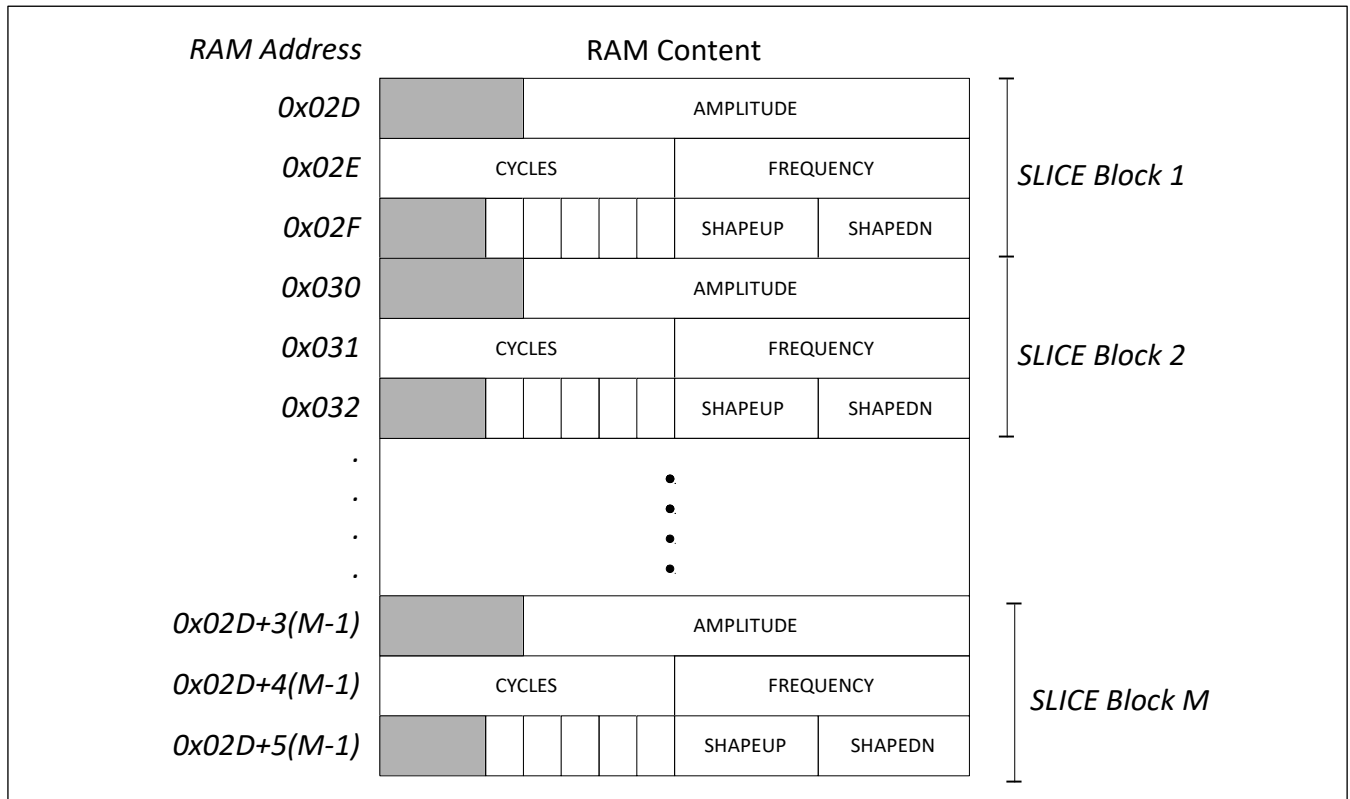
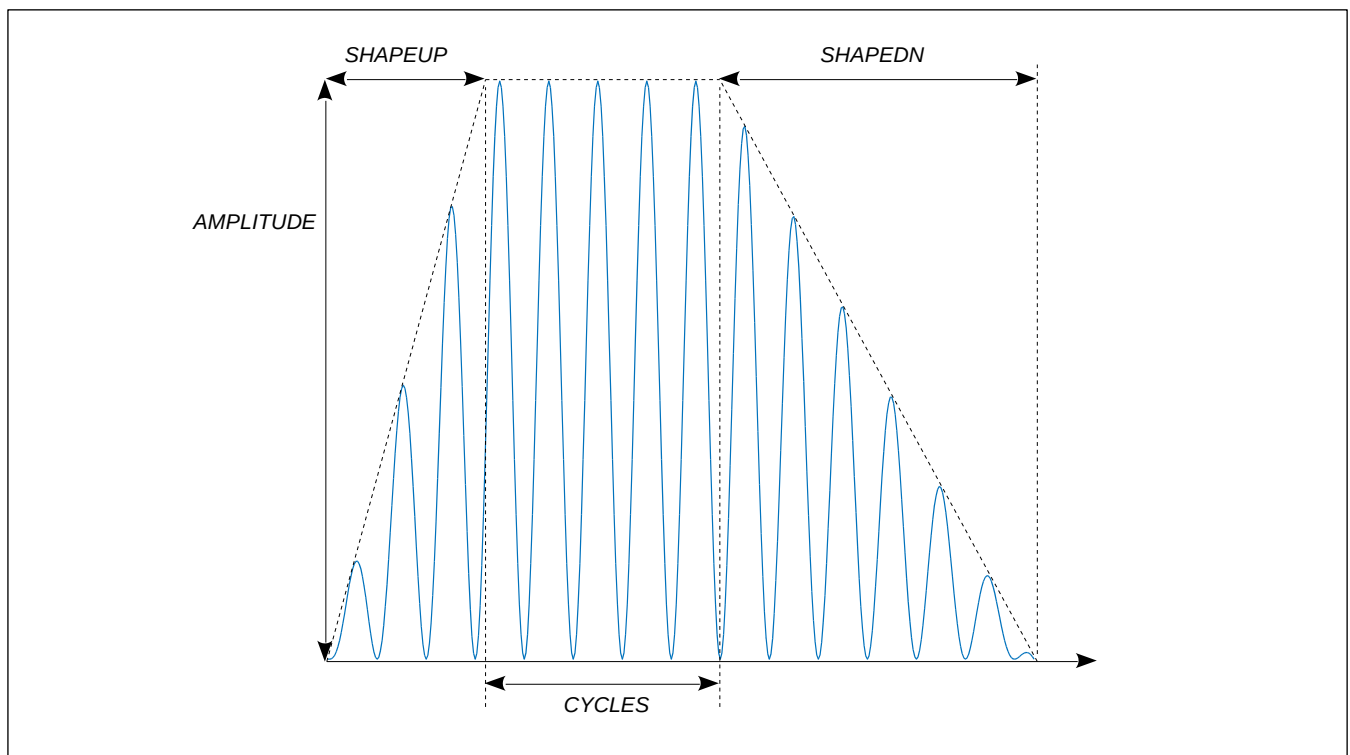

Figure 23: Sine wave SLICE parameters illustration
Figure 24: Sine wave SLICE parameters illustration
- 1) SLICES, written in the RAM using the RAM ACCESS command. Each SLICE contains a group of parameters used to produce a sine wave of defined amplitude, frequency, and number of cycles. It may also be ramped up and down (as shown in Figure 24). See section 6.8.1 for more details.
SLICE blocks in RAM contains the parameters used to synthesize sine waveforms. Each SLICE block contains three words grouping all parameters needed as described in Table 16. Figure 23 shows an example on how several SLICES can be organized in RAM. Figure 24 illustrates an example of how these parameters shape a SLICE waveform. Many SLICES may be successively played to form more complex waveforms.